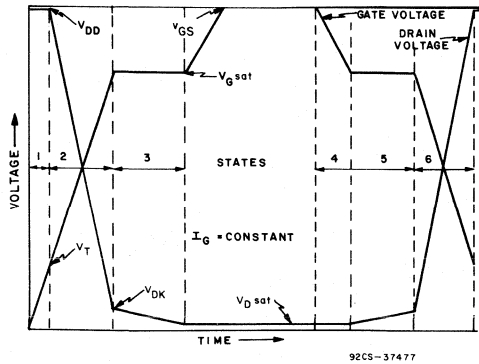

Fig. 4 - Idealized power-MOSFET waveforms.
- (1) An instantaneous step voltage with internal resistance R , Fig. 4.
On turn-off, the state time equations are equally applicable, but in reverse order (states 5 and 6); see the idealized waveform of Fig. 4.